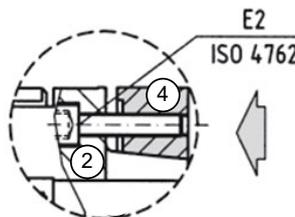

Figure 17: gap coupling dead stop
- ◆ ETH100&125: Tighten the fixing screws (please refer to Figure 17 Pos. E2) crosswise with a torque wrench in 3 turns with 1/3, 2/3 and full tightening torque (please refer to Table 1) until the final tightening torque is attained and the clamp collar touches the coupling half. The dead stop (please refer to Figure 18 Pos. 1) on the coupling half (please refer to Figure 18 Pos. 2) prevents too high pretension of the conical clamp collar and ensures high rotational accuracy.